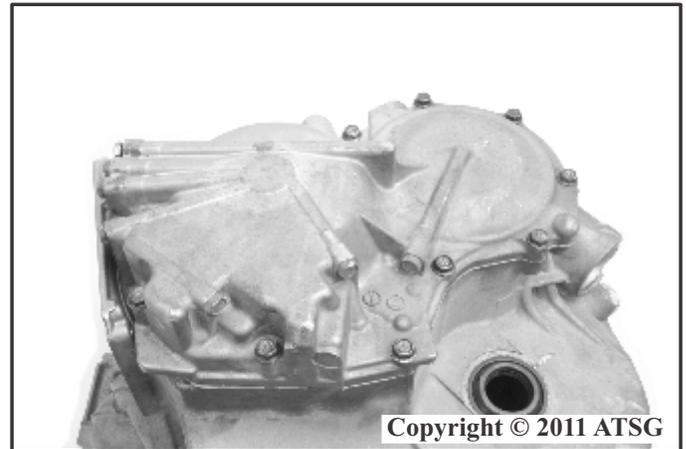

Figure 218
21. Install the case cover assembly onto the transmission and install the 12 bolts, hand tight only as shown in Figure 218.